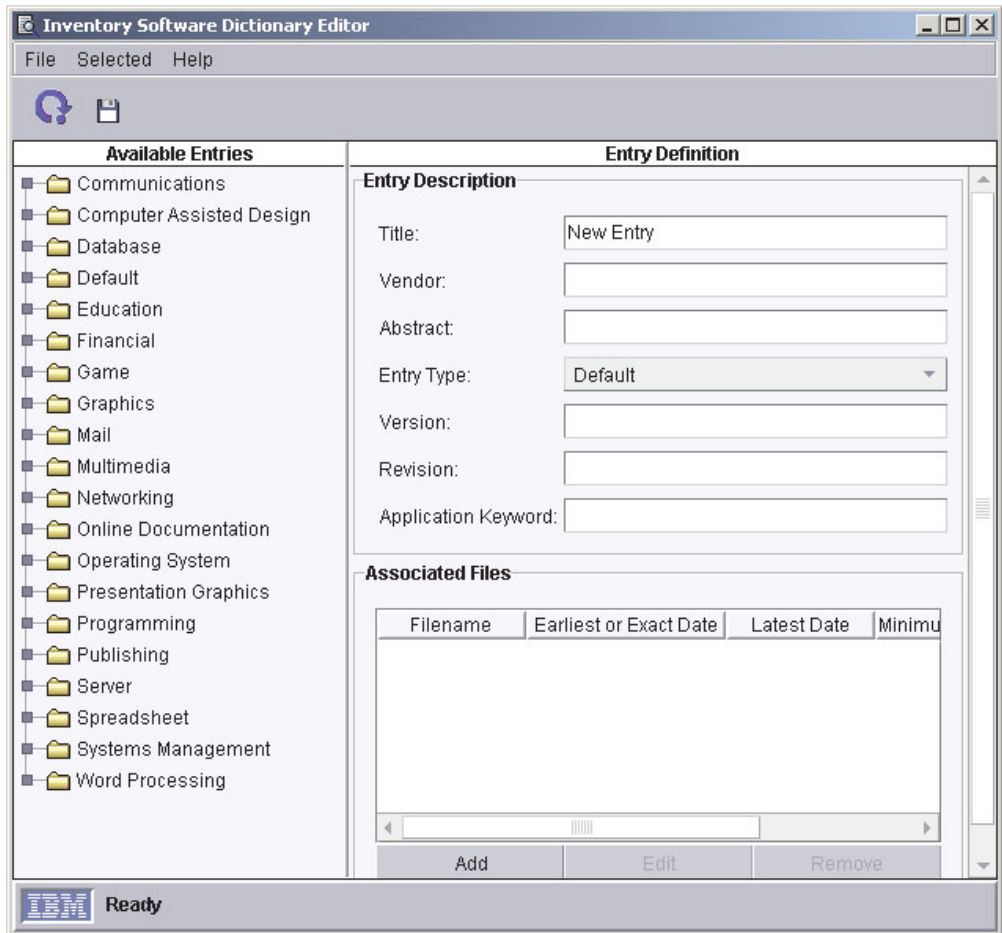

Figure 45. Inventory Software Dictionary Editor window
1. In the IBM Director Console Tasks pane, right-click the **Inventory** task; then, click **Edit Software Dictionary**. The Inventory Software Dictionary Editor window opens. (See Figure 45 on page 86.)